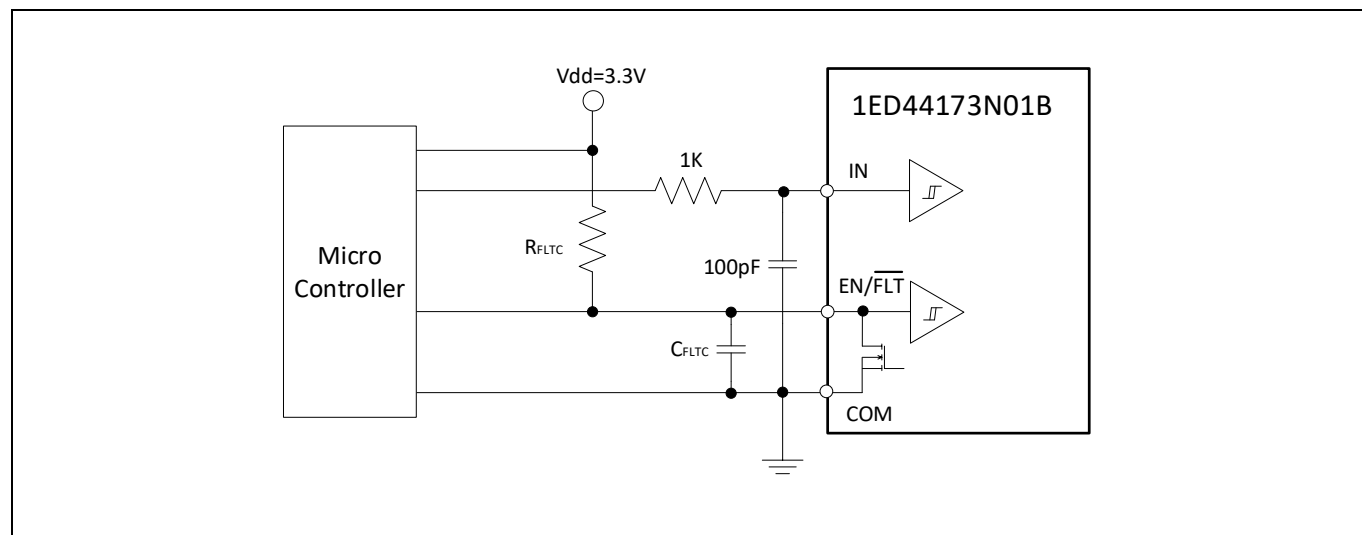
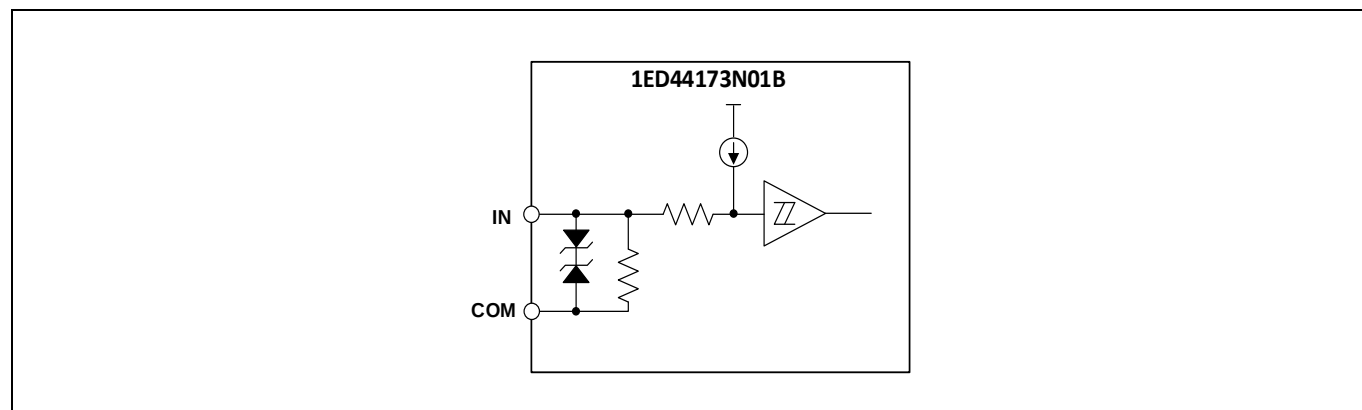

Figure 3 Recommended microcontroller I/O interface circuit
Figure 4 Simplified input structure diagram of 1ED44173N01B
- To prevent signal oscillations, an RC coupling is recommended as illustrated in Figure 3.
Figure 3 shows the I/O interface circuit between a microcontroller (μC) or digital signal processing (DSP) unit and the 1ED44173N01B. The 1ED44173N01B input logic is active-high. The $\text{EN}/\overline{\text{FLT}}$ output is an open-drain configuration. This signal should be pulled up to high by an external logic power supply with a pull-up resistor. RC (1 k Ω / 100 pF) is recommended for the input pin to prevent input noise.
As shown in Figure 4, the 1ED44173N01B input signal section integrates a pull-down resistor. Therefore, when using an external filtering resistor between the microcontroller output and 1ED44173N01B input, pay attention to the signal voltage drop at the 1ED44173N01B input terminal. It should fulfill the logic "1" input voltage requirement. For instance, $R = 1\text{ k}\Omega$ and $C = 100\text{ pF}$ are recommended for the parts shown in Figure 3.